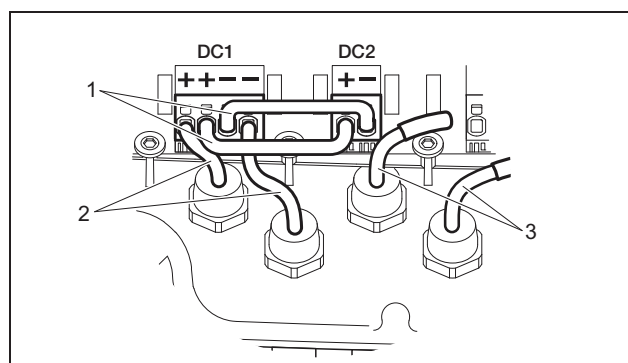

Fig. 20: Inputs 1 and 2 connected in parallel (PIKO 3.6/4.2)
- PIKO 3.6/4.2/7.0/8.3/10.1: If required, now connect inputs 1 and 2 in **parallel**. Insert the bridges supplied into the clamps as shown (figure 20/21).